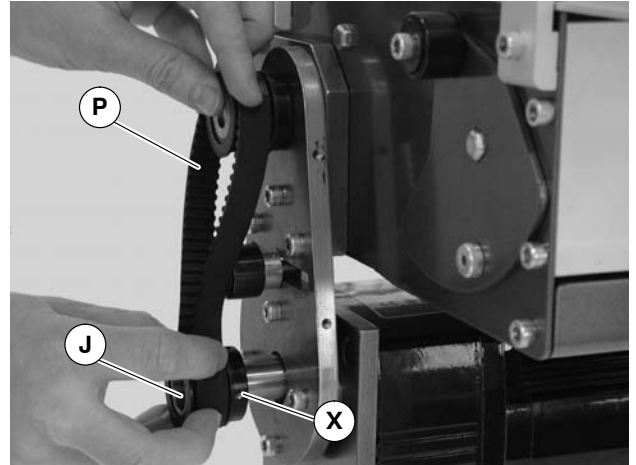

Figure 20
NOTE: If drive pulley (J of Figure 20) is replaced, wrap timing belt around drive pulley and complete step 3.
6. Loosen drive pulley set screws (X of Figure 20). Remove drive pulley (J) and timing belt (P).